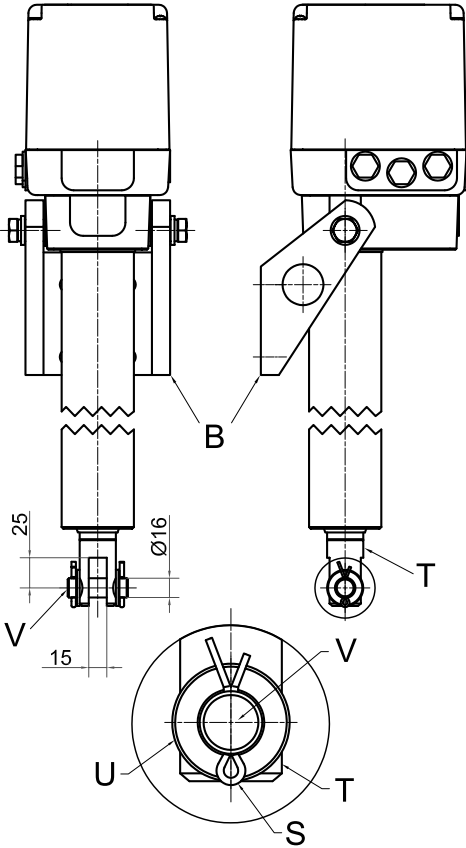

Fig. 5.7: Series KA – assembly
- 1. Install the actuator using mounting bracket B at the prescribed position (see Fig. 5.5: “Series K – assembly” and/or Fig. 5.7: “Series KA – assembly”)